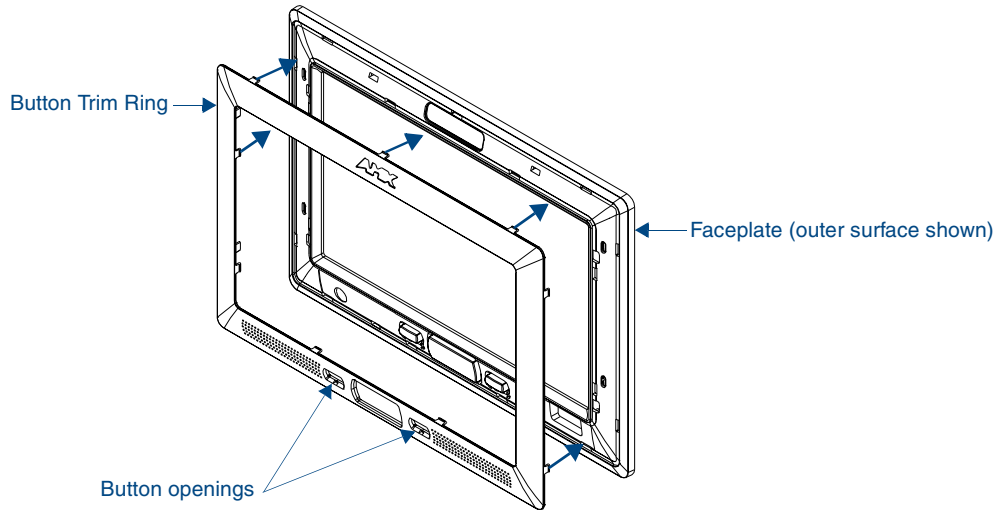

FIG. 19 Inserting the Button Trim Ring
- Gently insert the Button Trim Ring latches into their corresponding openings on the outer surface of the internal Faceplate (FIG. 19).